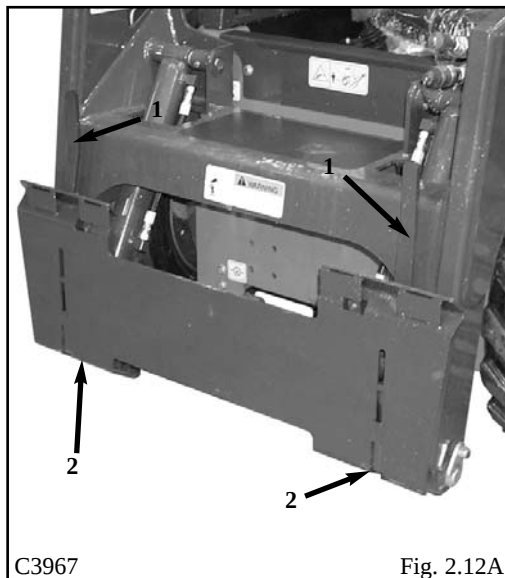
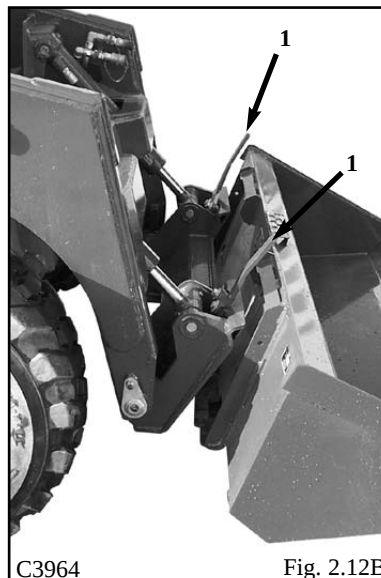
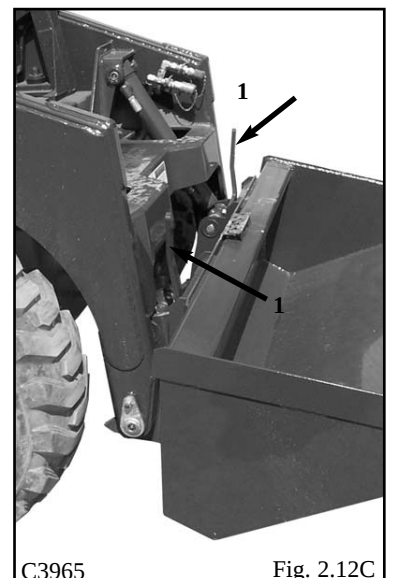

Fig. 2.12A
Fig. 2.12B
Fig. 2.12C
To operate, lift the locking lever (1) up to completely retract the locking pins (2) (Fig.2.12A). Tilt the quick - tach frame forward (Fig. 2.12B) with the bucket tilt cylinders and drive into the attachment. Retract the bucket tilt cylinders (Fig. 2.12C) which will line up the bottom of the attachment with the quick - tach lock pins. Shut off the engine.